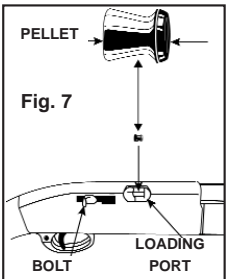

Fig. 7
- Place one pellet (nose first), in the loading port. (Fig. 7)